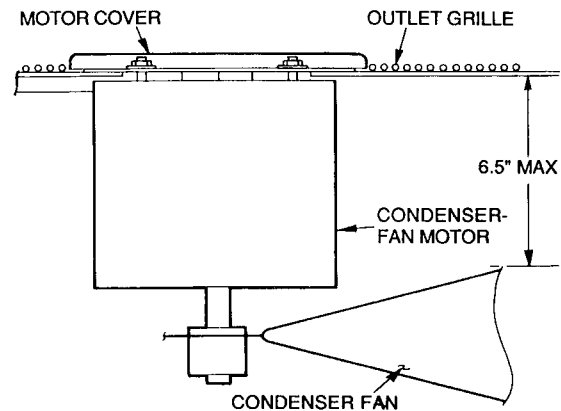

Fig. 33 — Condenser-Fan Adjustment
Condenser-Fan Adjustment (Fig. 33)
3. Adjust fan height as shown in Fig. 33.